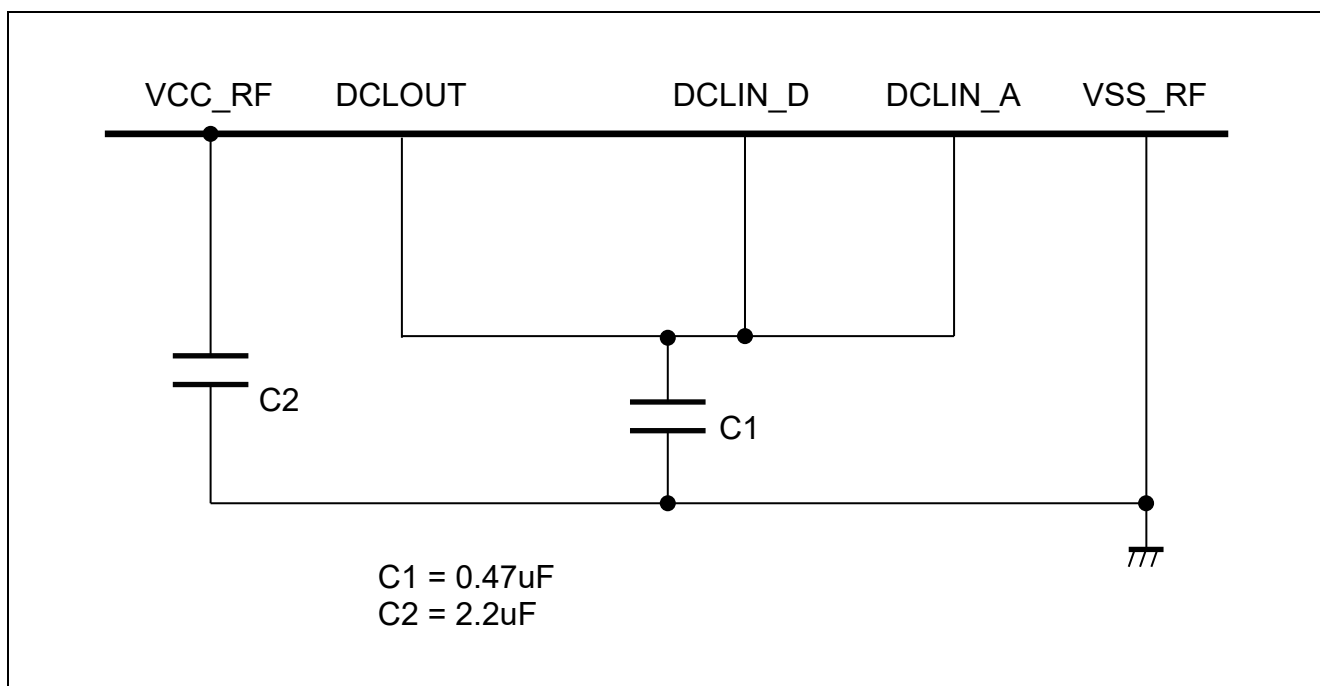
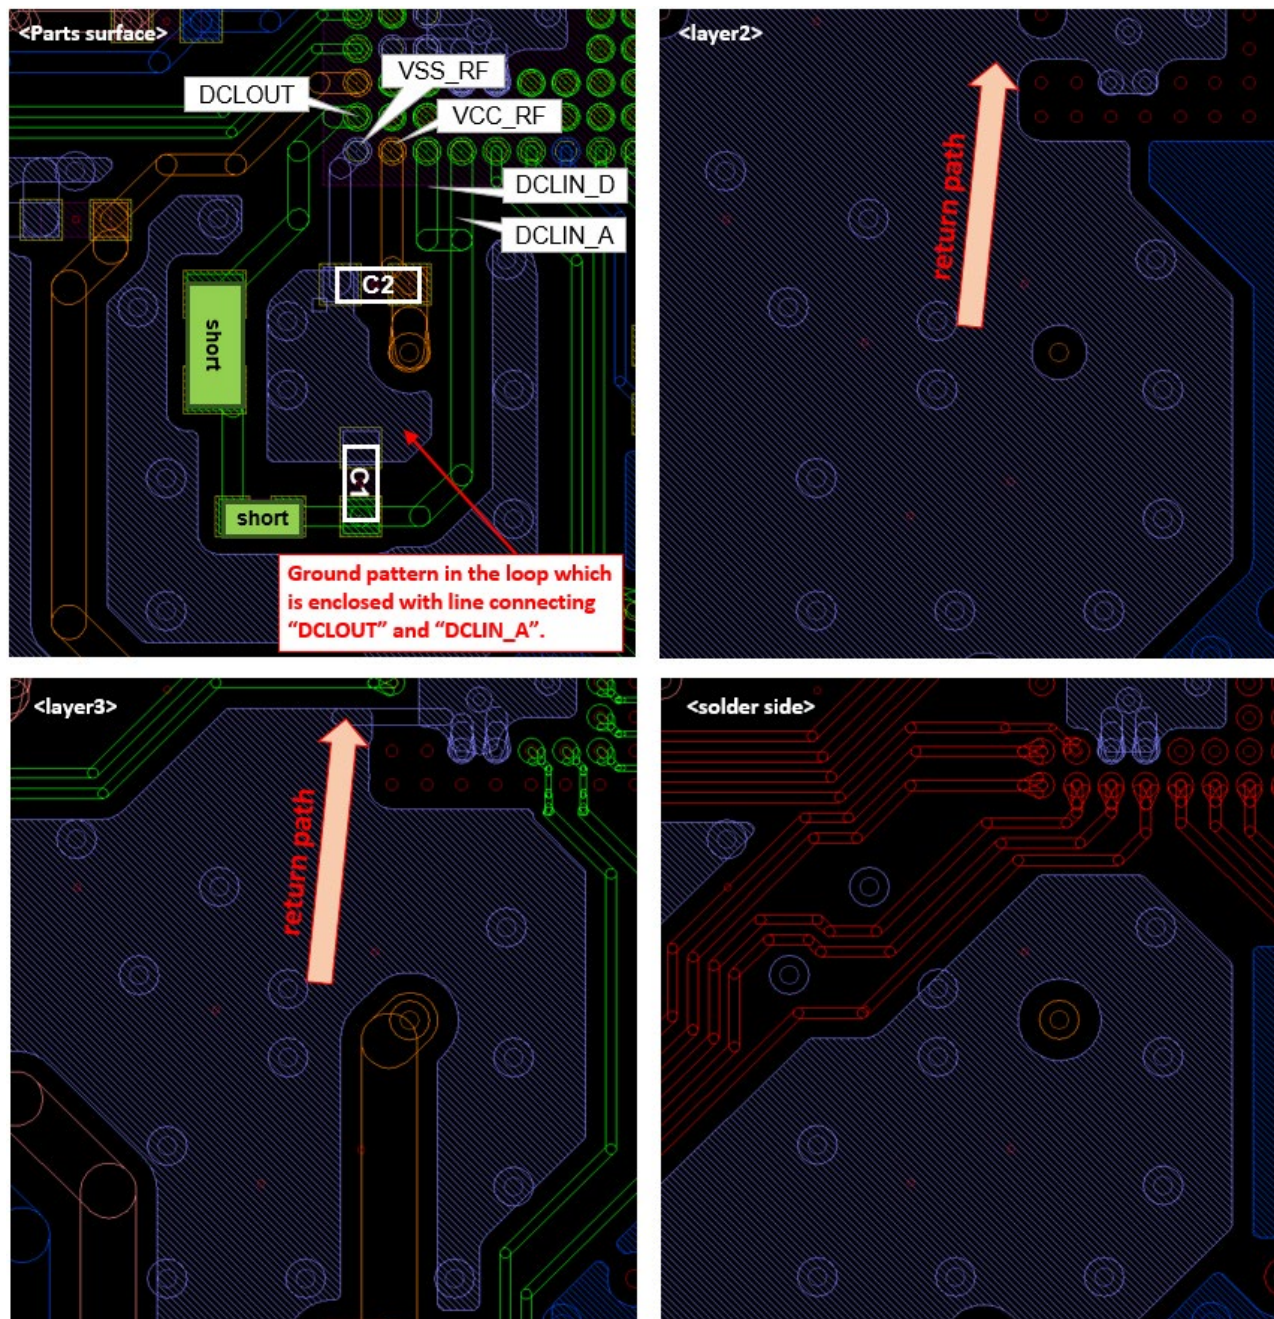

Figure 3-9 Example of the external circuit for Linear regulator mode
Figure 3-10 Example of the PCB pattern for Linear regulator mode
- Make the signal pattern from “DCLOUT” pin to “VSS_RF” through “C1” shorter and wider for low impedance connection. Place ground pattern in area which is enclosed with line connecting “DCLOUT” and “DCLIN_A”, as shown in "Figure 3-10 Example of the PCB pattern for Linear regulator mode". In addition, connect a capacitor “C1” and “VSS_RF” to this ground pattern.
- Ensure a return path in layer2 (additional layer3 if possible) from ground in the loop to “VSS_RF”, as shown in "Figure 3-10 Example of the PCB pattern for Linear regulator mode”.
Figure 3-9 shows an example of the external circuit for Linear regulator mode, Figure 3-10 shows an example of the PCB pattern.